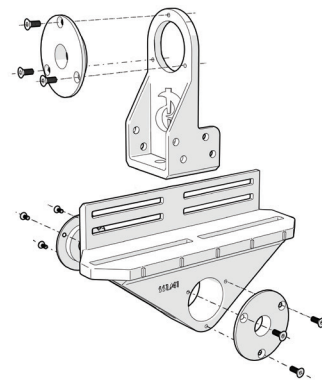

Figure 1A
**1** Install lower bushings [661939] to Mount Base [662000]. Install bushings to Ears [662001]. The correct bushings to be installed are determined based on the end-of-stick pin diameter size of your prime mover. Fasten (1) bushing to each ear with (3) 3/8"-16 UNC flat socket head screws [174348] using 1/4" hex key. Tighten screws to 30 ft/lbs dry or 23 ft/lbs lubricated. (Figure 1A)
**2** Attach (2) Ears to Mount Base [662000] with Bushings facing out.